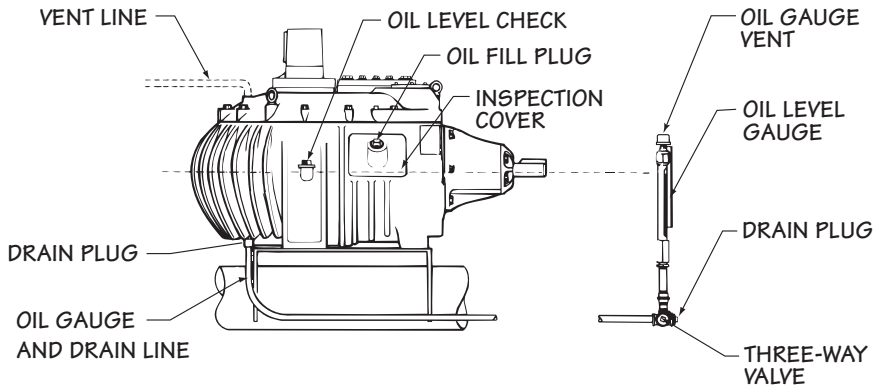

Figure 2 Oil Gauge and Drain Line (a Series 36 Geareducer is illustrated)
Drain the Geareducer oil by removing the drain plug. See **Figure 2** for location. If equipped with an external dipstick/oil level gauge, remove the drain plug at that location, and drain the entire system.
1. Pour oil through fill hole in Geareducer inspection cover until it reaches height of "full" mark in the Geareducer case and at the sight glass. See **Figures 2** and **3**. Reinstall pipe plug in the fill hole.